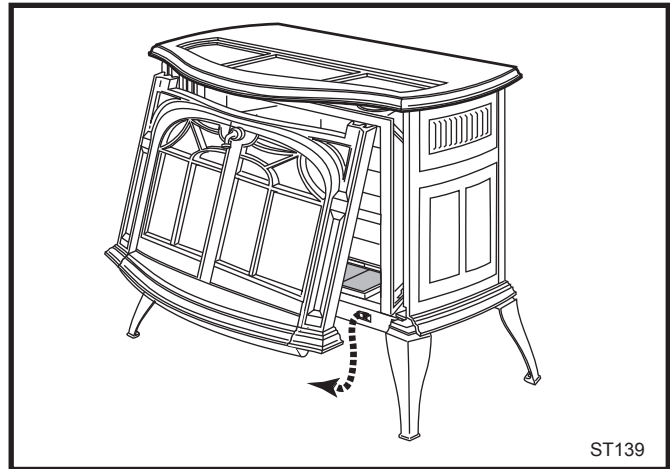

Fig. 34 Remove the front plate and top grille/screen.
2. Remove the front plate, top grille and screen. (Fig. 34)